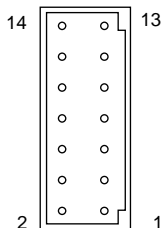

Fig. 3-5: External Control connector pin assignment (ZUP rear panel view)
The external control connector, used for analog programming of the power supply, is located on the rear panel of the unit, (Fig. 4-2, item 4). The pin assignment is shown in Fig. 3-5 below.